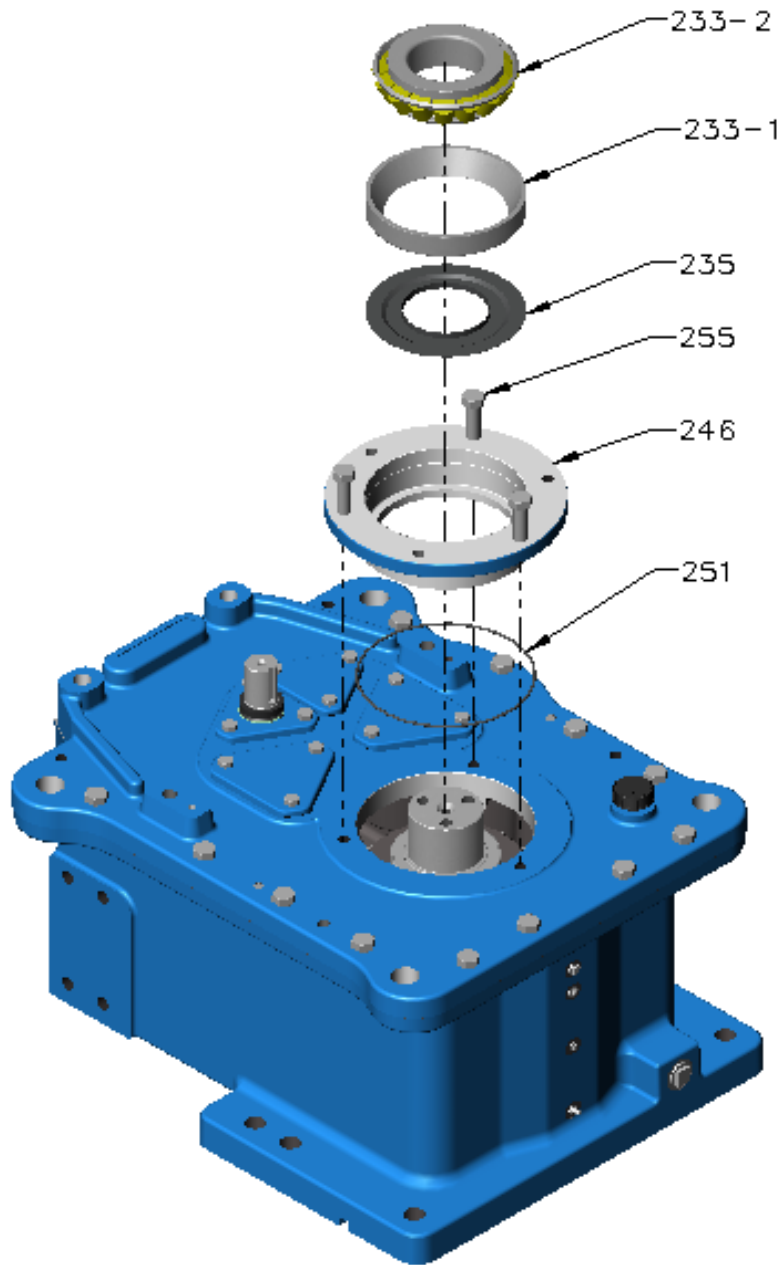

Figure 25 - Output bearing with carrier
- V. Install output bearing with bearing carrier (refer Figure 25):
- (1) Install the bearing carrier **[246]** along with the o-ring **[251]**
- (2) Torque-tighten the Bolts **[255]** to value given in Table 1
- (3) Place the nilos ring **[235]** into the bearing carrier
- (4) Install the bearing cup **[233-1]** into the bearing carrier
- (5) Heat bearing cone **[233-2]** at 120°C (248°F) and install it in the bearing cup **[233-1]**